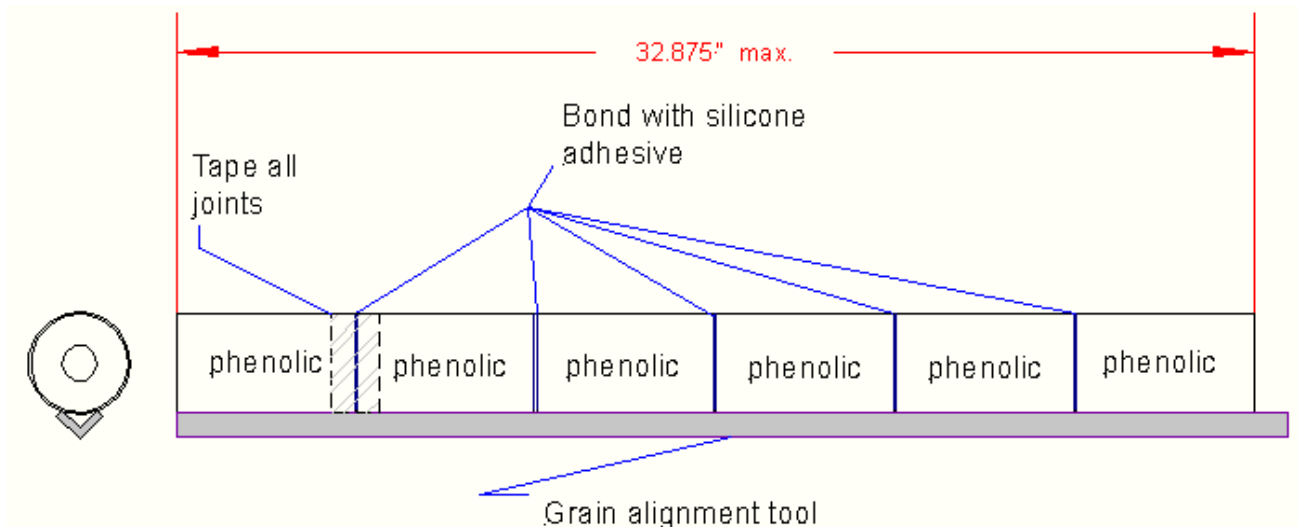

Figure 4 – Assembling grains for Forward Chamber
2. Place two grain segments onto Grain Alignment Tool (T5), per Figure 4.
6. Repeat steps 3-5 for mating each of the remaining 4 segments, per Figure 4.
7. Measure overall length of grain assembly (ref. Fig.4). Maximum permissible length is 32.875”. If length is greater than this, trim tubing off of aft end